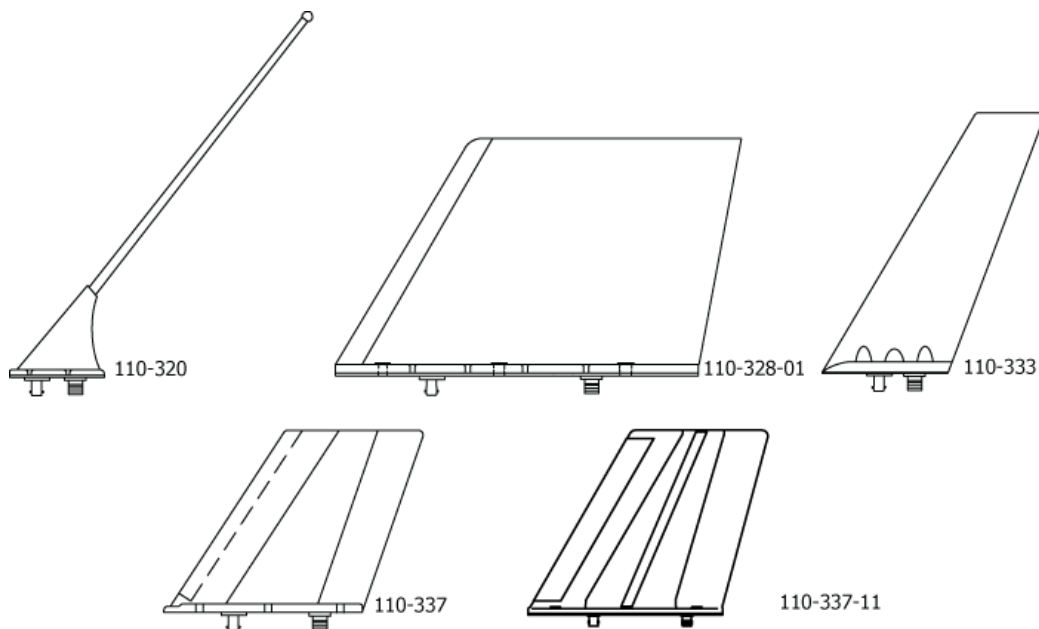

Figure 6 Antennas
- 5) Five dual-input antennas are approved for use with the C406-2 Series ELT. Selection of the proper antenna is dependent upon end use, aircraft configuration and speed, and other factors. See Figure 6.